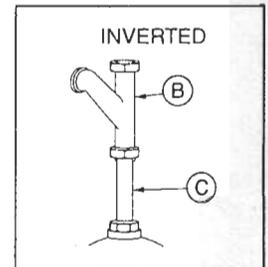

Figure 2
**NOTE:** If gauge glass tapings are spaced more than 10 1/8" (270mm) apart, invert the Black Y (B). See figure 2. If spaced greater than 13 3/8" (339mm), substitute a longer 1/2" (15mm) nipple for original (C).